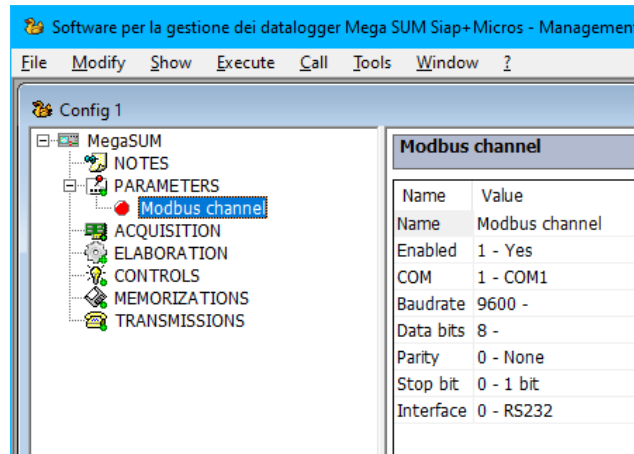

Figure 15.10: configuration of a Modbus channel.
- Using a serial port of the datalogger. To create this communication channel the user needs to configure a Modbus channel from Parameters section along with the serial port settings (see Figure 15.10). See